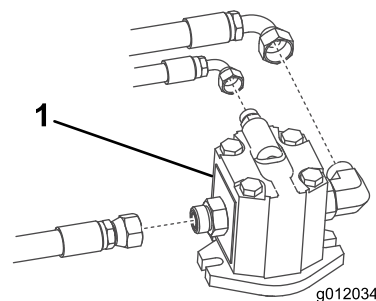

Figure 7
1. Lift arm ball joint mount (2)
9. Disconnect the hydraulic hoses from the fittings on the hydraulic motor (center deck only) (Figure 7).